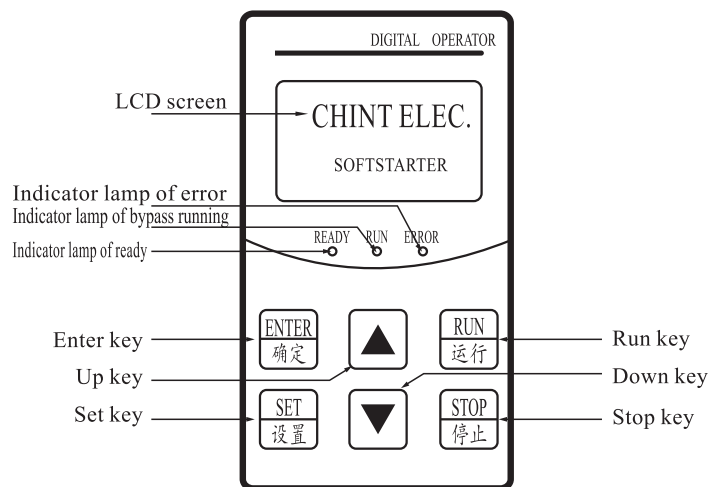

Fig.3.1 Schematic diagram of operating panel
3.1.1 Functional schematic diagram of operating panel, see fig.3.1: